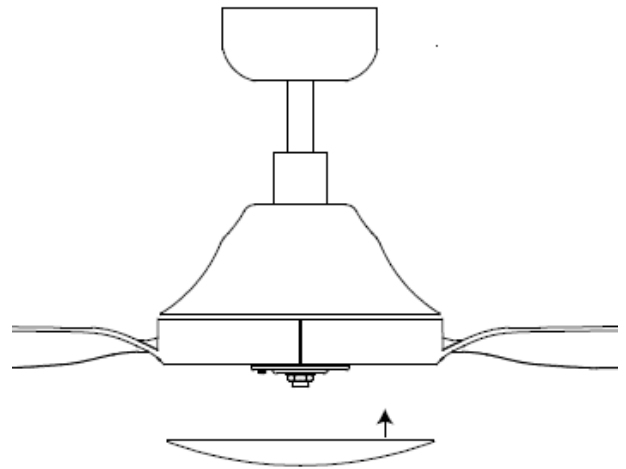

Fig. 9
- Finally install the bottom cover to the shaft by rotating it clockwise. Fig. 9